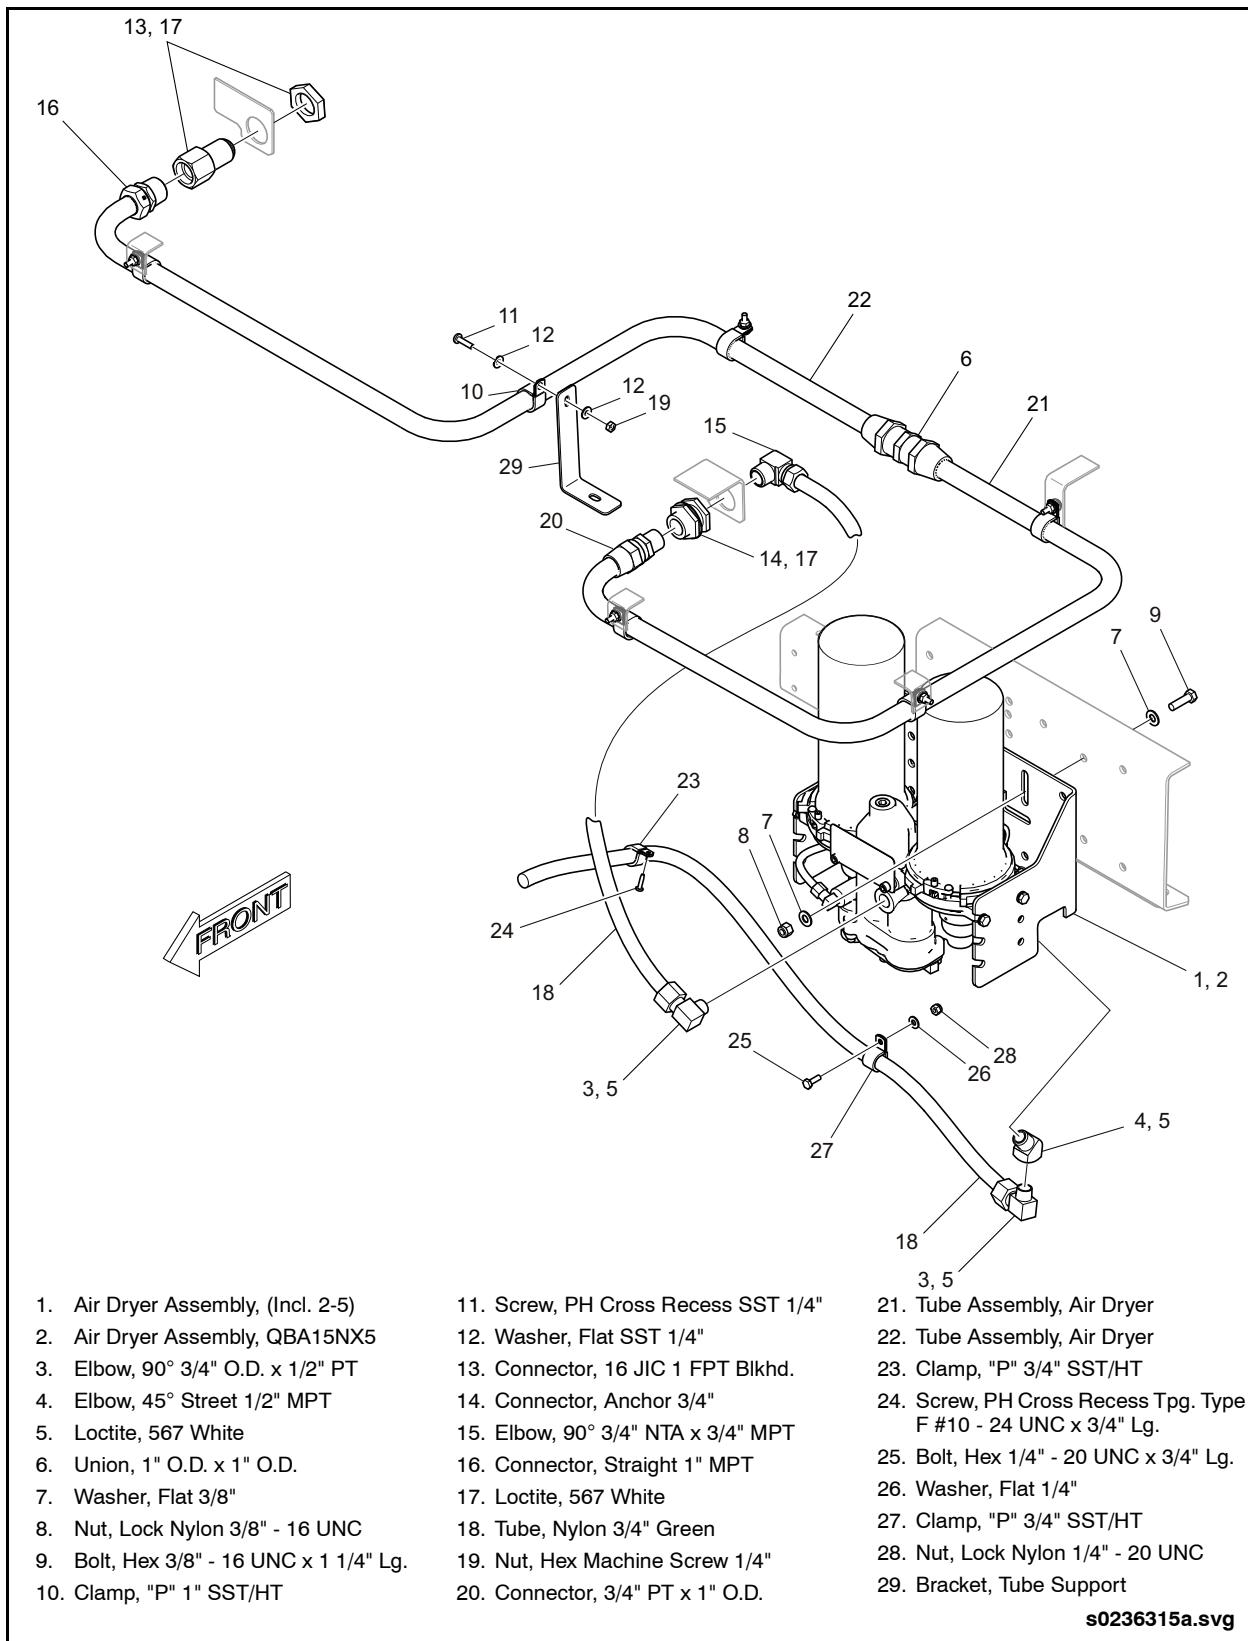

Fig. 8-7: Air Dryer Installation
1. Remove the three air lines from the air dryer. See "Fig. 8-7: Air Dryer Installation" on page 36.